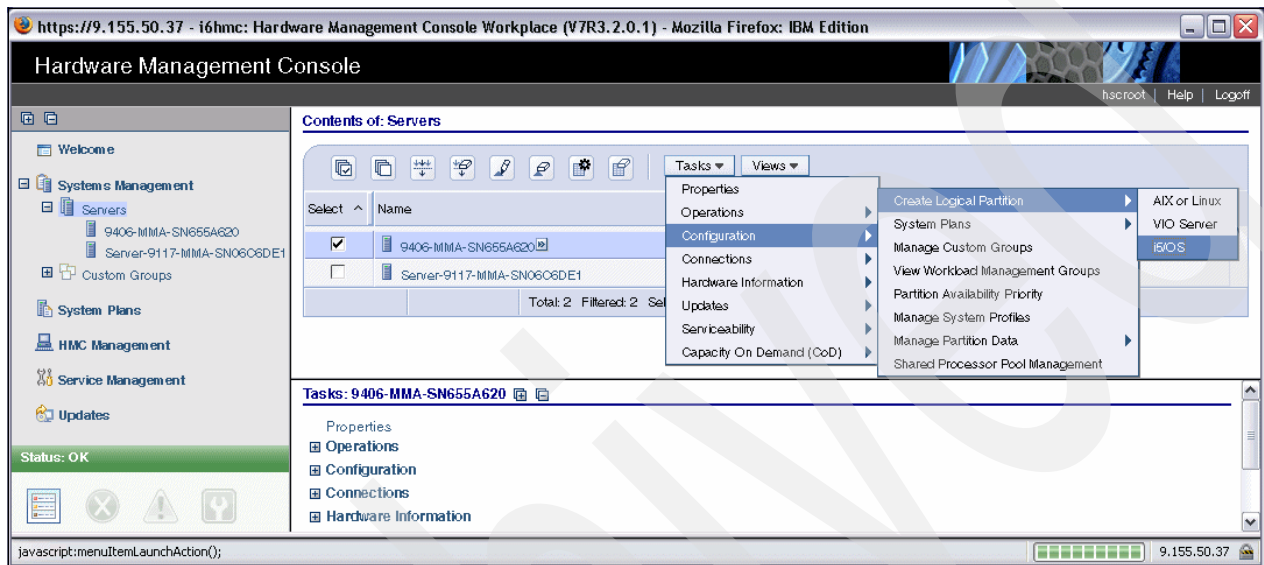

Figure 6-21 Create Logical Partition for IBM i
1. From the HMC Systems Management → Servers view we mark our IBM i server that we want to create the IBM i partition on and select **Tasks** → **Configuration** → **Create Logical Partition** → **i5/OS**, as shown in Figure 6-21.